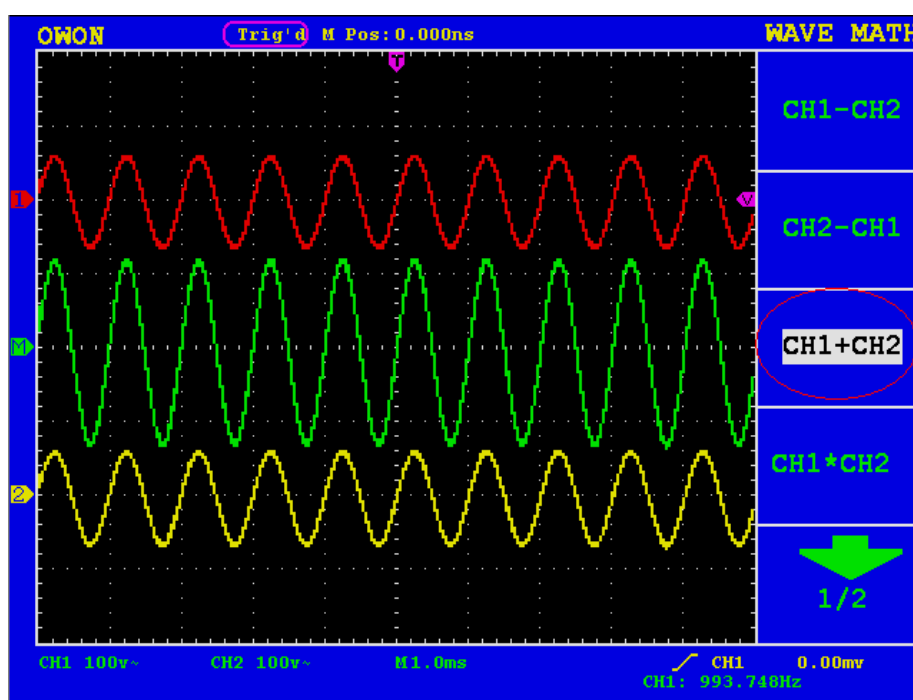

Fig. 27 Wave Form resulted from CH1 +CH2 Mathematical Manipulation
2. Press the **F3** menu selection button and choose **CH1+CH2**. The green calculated wave form M is displayed in the screen; press the **F3** menu selection button again, the wave form M is closed off (see Fig.27).